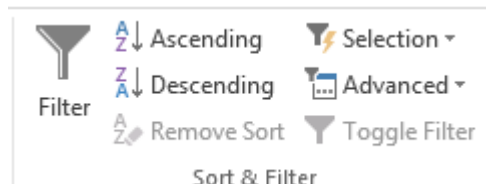

Figure 29: Sort & Filter Group in the Home Tab of the Ribbon
3. Activate Sort: Click the  (ascending) button in the Home tab of the Sort & Filter group of the Ribbon (Figure 29). Alternatively, you can right-mouse-click on one of the fields or labels and choose **Sort Smallest to Largest**. When you are finished, click the scroll arrows at the bottom of the form to see the ascending order of the records.
4. Reset Records: Reset records back to the beginning of the sort by clicking the  button in the **Home** tab of the Sort & Filter group of the Ribbon (Figure 29).
5. Remove Sort: The sort remains active until you remove it. Thus, if you close the form and open it again, the sort is still active. To remove the sort, click the  (Remove Sort) button in the **Home** tab of the Sort & Filter group of the Ribbon (Figure 29)